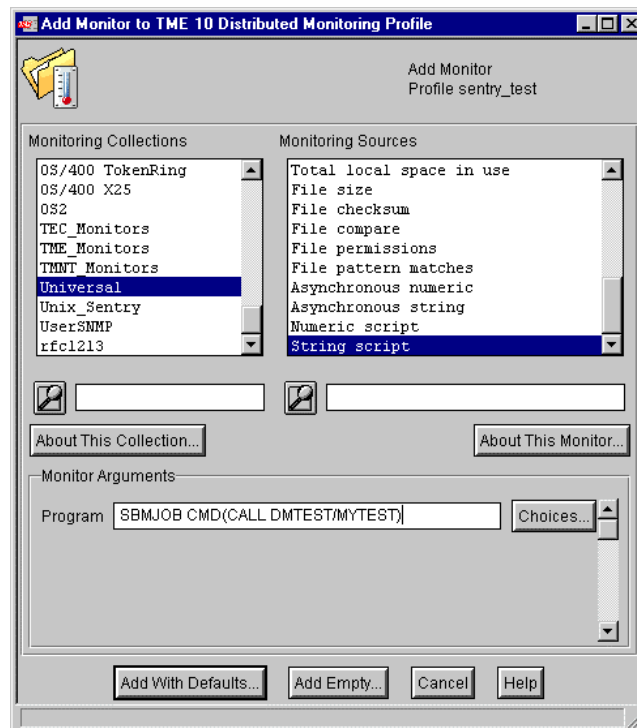

Figure 147. Selecting Universal monitoring collection
1. To do a custom monitor instead of selecting a monitor from an AS/400 monitoring collection, you would select, from the Universal Monitoring collection, either a String script or a Numeric script (depending upon the value returned by the custom program) and give the monitor arguments in the same manner that you use to specify a run Program above. See Figure 147 on page 268.